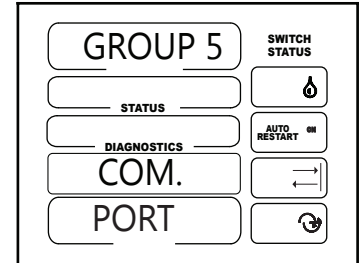

Figure 37-1
2. GROUP 5 will be shown in the display screen. See figure 37-1.